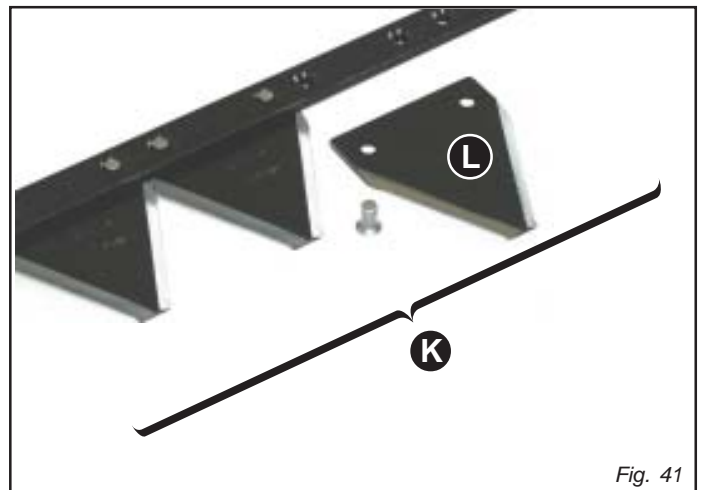

Fig. 41
### REPLACEMENT OF SECTION-HOLDING BAR (K, Fig. 41)
- Rivet a new section with the rivets provided (L, Fig. 41).